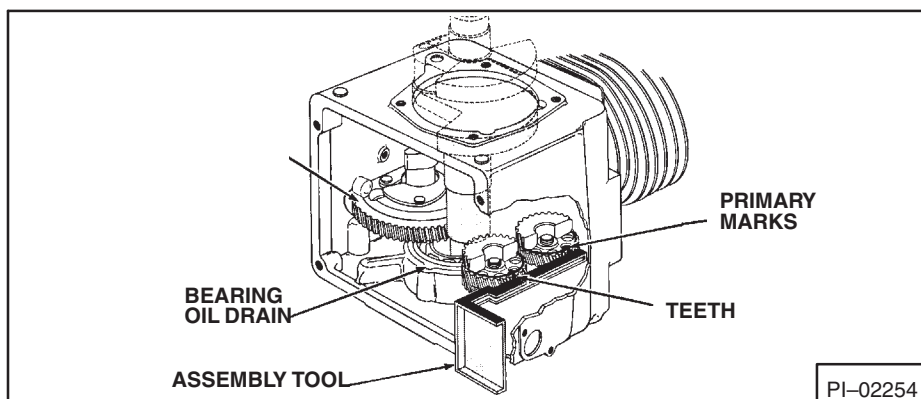

Fig. 47 Timing Tool
1. Turn the balance gears so the primary timing marks will fit the tool (Fig. 47).
2. Hold the tool against the cylinder block. Align the standard timing marks on the crankshaft with the bearing oil drain hole (Fig. 47). Use a press to push the crankshaft into the crankcase until you engage the crankshaft gear into the timing gears $1/16^{\circ}$.